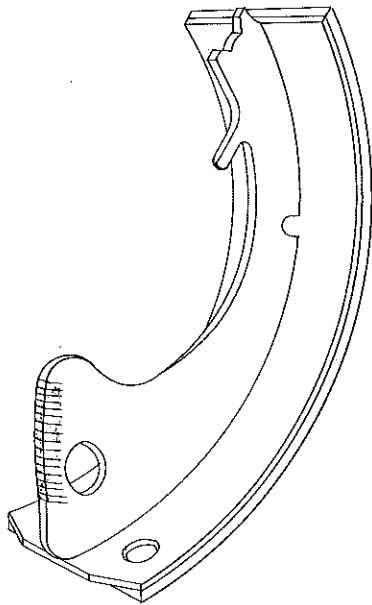

Fig. 6
Raybestos Division will furnish the proper hardened brake shoes for all Center-Plane Brakes. It is very important that Center-Plane brake shoes be rehardened at the anchor end of the brake shoe web after they are debonded. If this is not done, this part will wear flat causing erratic performance of the brake (See Fig. 6, 7, 8).
The original Center-Plane brake shoe in 1956 did not have any loops in the rim of the shoe. (See Fig. 6).
1. If the brake shoe anchors in the brake support plates are loose, especially on the rear brakes, noise may remain. Additional staking of the anchor or replacement of the support plate assembly may be required (As described in Fig. 6).